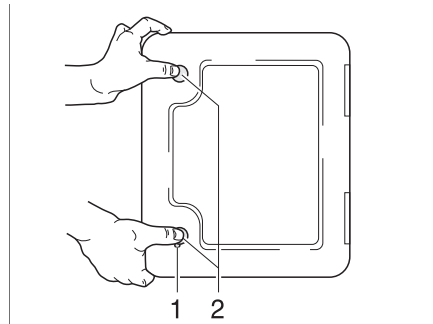

Fig. 153 Flap for the toilet cassette
- Open the flap for the cassette on the outside of the vehicle. Insert the key into the locking cylinder of the push-button lock (Fig. 153,1) and turn a quarter turn.
- Press both push-button locks (Fig. 153,2) simultaneously with your thumb and open the flap for the cassette.